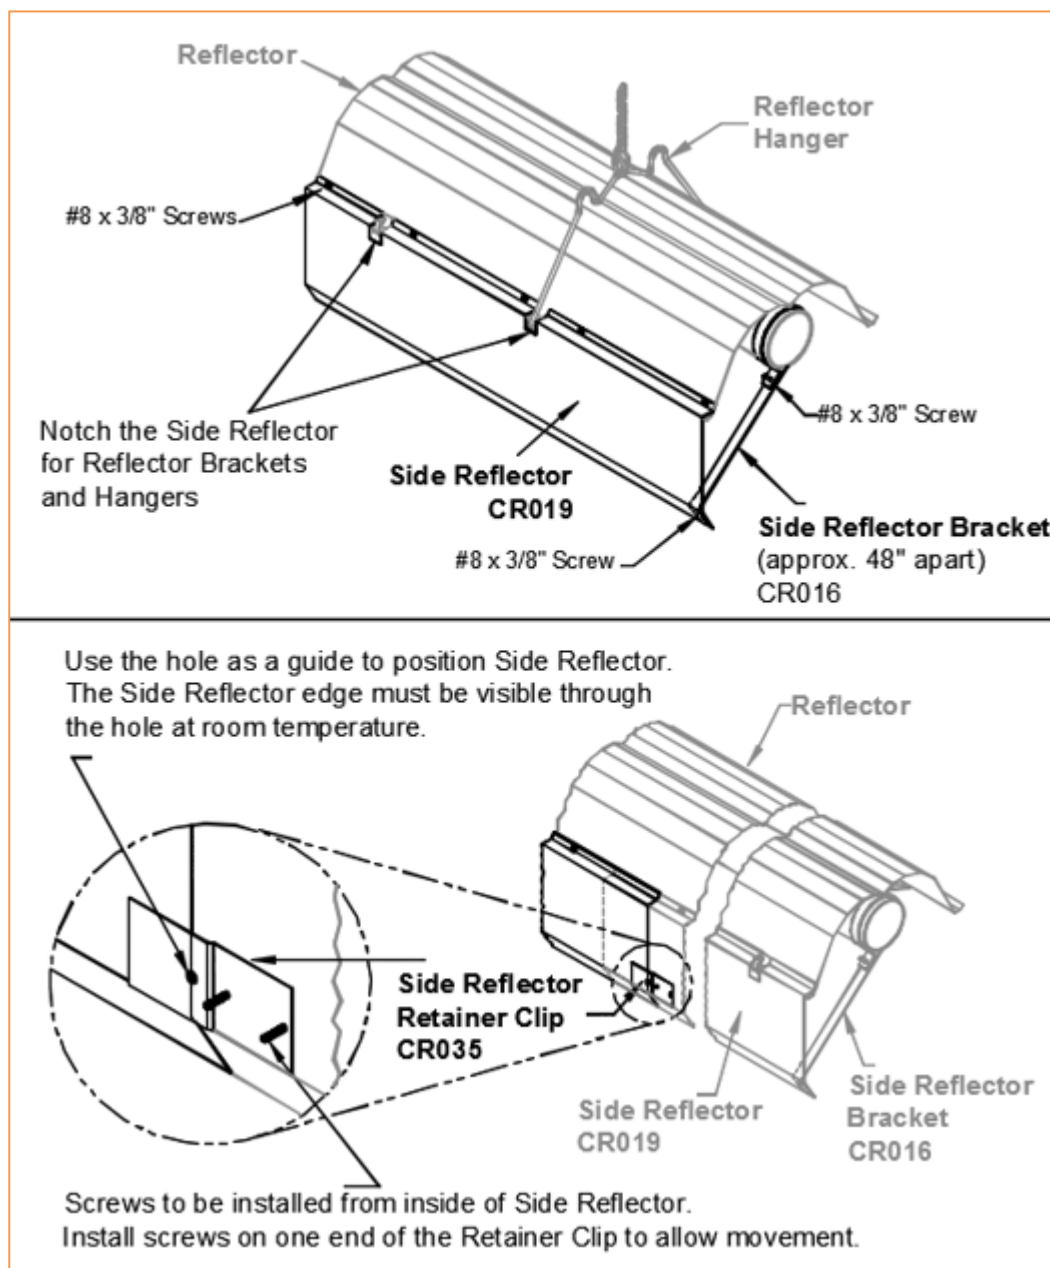

Figure 28: Side Reflector Installation Detail
Side Reflectors are 124" (3.15 m) long. Fasten one Side Reflector per main Reflector tightly with #8 x 3/8" screws spaced about 18" (0.5 m) apart. Install three (3) Side Reflector Brackets per Side Reflector, spaced about 48" (1.2 m) apart, using #8 x 3/8" screws. DO NOT install brackets where Reflectors overlap. Refer to Figure 28 for details.